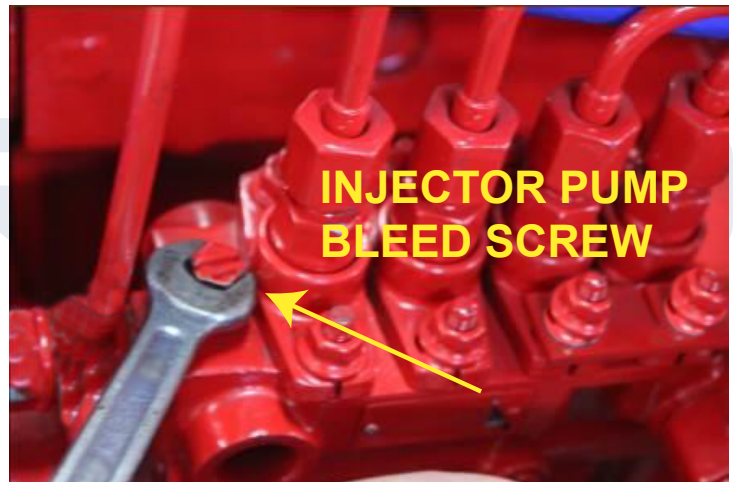

FIGURE 21 - INJECTOR PUMP ASSEMBLY BLEED SCREW
- Each of the injection pumps has a bleed screw located on the top of the housing. See FIGURE 21. Loosen this vent screw.